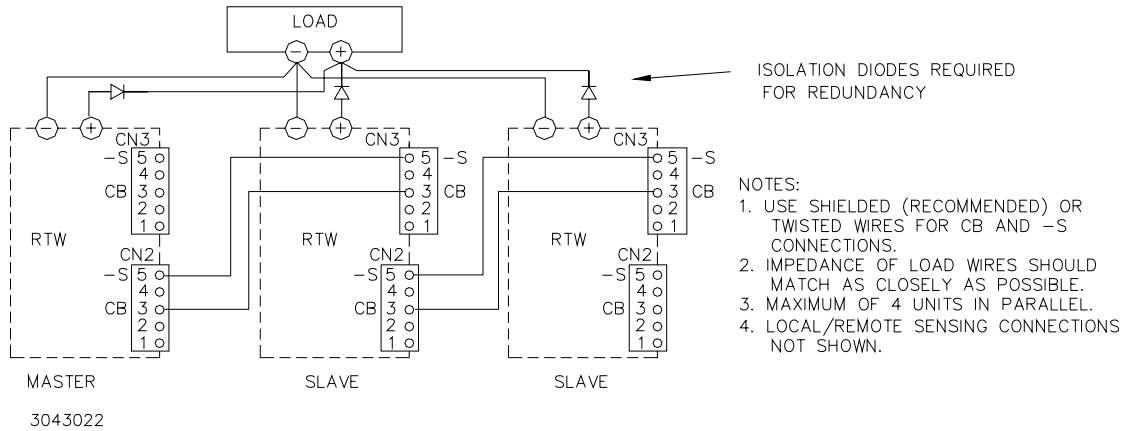

FIGURE 8. PARALLEL CONNECTION WITH CURRENT BALANCING
For a single remote ON-OFF signal to turn off all parallel-connected units, connect together all +RC terminals and connect together all -RC terminals. Figure 8 illustrates connection of up to four (maximum) power supplies in parallel. Output current for a parallel connection operating into a single load is equalized by connecting the CB and -S terminals as shown. Refer to PAR. 6.3.1 for conditions required for proper current equalization (balancing). Optional Cable Kit 219-0497 (PAR. 6.6) may facilitate connections.
**N+1 Redundancy.** An N+1 system requires one additional power supply than necessary to supply the load. If one of the parallel-connected units fail, the others will continue to provide power to the load without down time. For redundancy, add isolation diodes as shown in Figure 8.